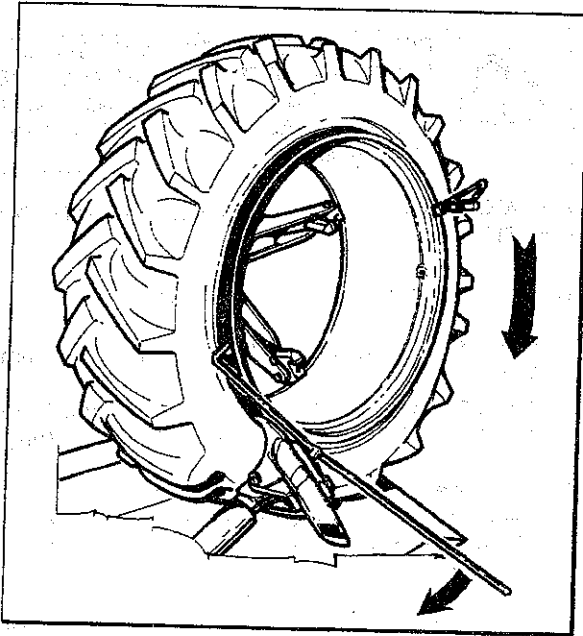

Fig.52
- Place the hook tool as described in 5.5.2. Rotate the chuck clockwise fill the bead is completely mounted. If necessary, use the bead bar to keep the bead in the drop center (Fig.52).